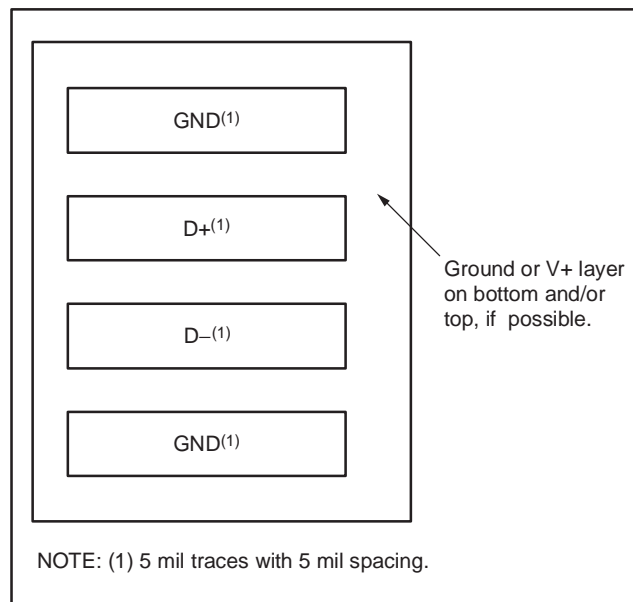

Figure 18. Example Signal Traces
2. Route the D+ and D– traces next to each other and shield them from adjacent signals through the use of ground guard traces, as shown in Figure 18. If a multilayer PCB is used, bury these traces between ground or V_{DD} planes to shield them from extrinsic noise sources. 5 mil PCB traces are recommended.